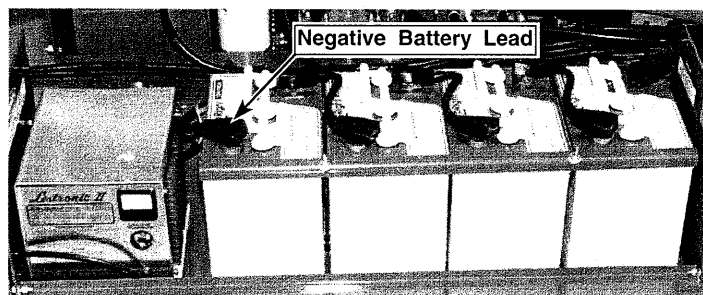

Figure 2-2: Power Module, Left Side
6. Connect the negative battery lead terminal (Figure 2-2).
3. Disconnect the battery negative (-) lead from the battery terminal (Figure 2-2).